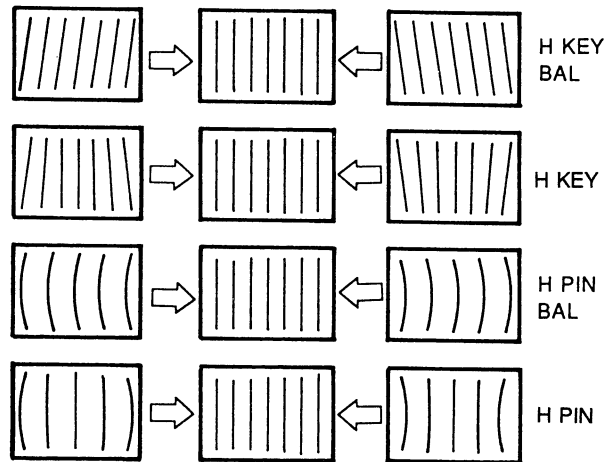

**Fig. 1-9.**
8. Adjust the V SIZE, V LIN BAL, and V LIN data as shown in Fig. 1-9.